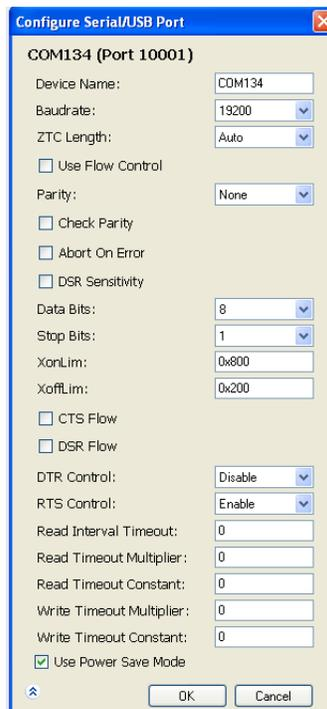

Figure 2-8. Command Console Local Port Configuration Window Advanced
5. Display more advanced configuration options for the serial connection by clicking the arrow button in the lower left side of the Configure Serial/USB Port window Figure 2-8. This expands the window to show more standard flow control or timeout port parameters.
Users can also configure Test Tool to send data to devices that are in low power mode and which have the functionality enabled to wake up on serial communication. To enable this feature go to advanced mode. Then, enable check box “Use power Save Mode“ as shown in Figure 2-8. When this feature is activated, each time Test Tool sends a packet to a board, it changes the RTS Control bit to wake up the device if development hardware is configured in this manner.